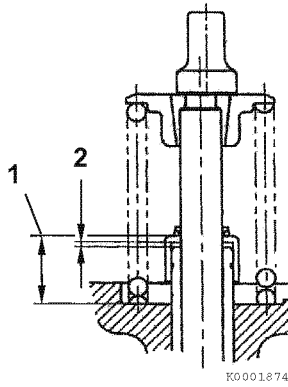

Figure 6-27
2. Measure the distance (Figure 6-27, (1)) from the cylinder head to valve stem seal to ensure proper clearance (Figure 6-27, (2)) between the valve guide and seal. See valve stem seal projection specification on page 6-5.